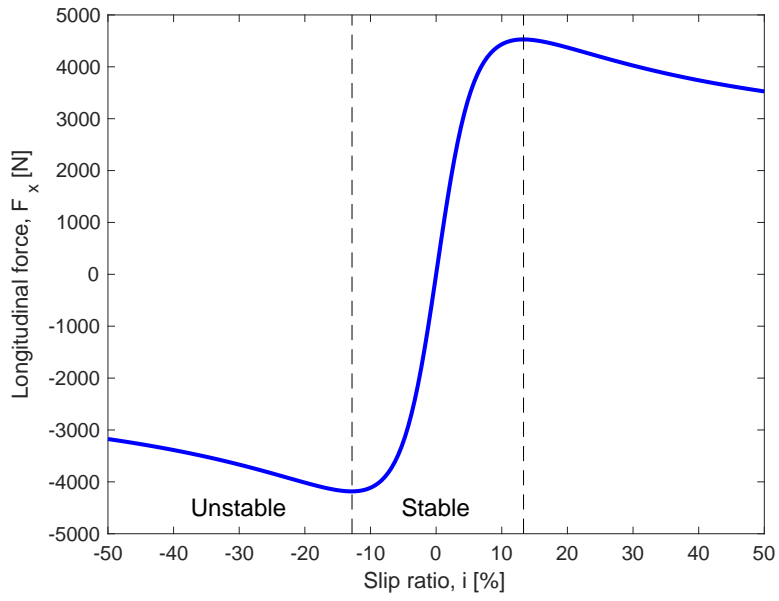

Figure 1 Longitudinal tire force.
Slip control is an alternative to ABS systems. ABS systems operate by reducing the braking pressure when the slip ratio approaches the unstable region, where if the braking force is kept constant the wheel will eventually lock (See Figure 1). In contrast, slip control systems control the slip ratio towards a desired value.
- Formulate  $\omega_{des}$  as a function of the desired slip ratio  $i_{des}$ . (The slip ratio is defined in (2).)
- Define a slip reference value  $i_{des}$  for your controller. (Hint: You can use Figure 1 for this.)
Figure 1 show how the longitudinal tire force depends on the slip ratio  $i$ , with the slip ratio defined as